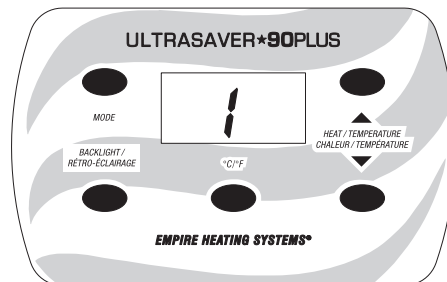

Figure 60
1. Start the wall furnace by pressing the display panel's "Mode Select" button once from remote mode to start the wall furnace manually. **See Figure 60.** The Display Panel will energize, and the desired heat level will be displayed.